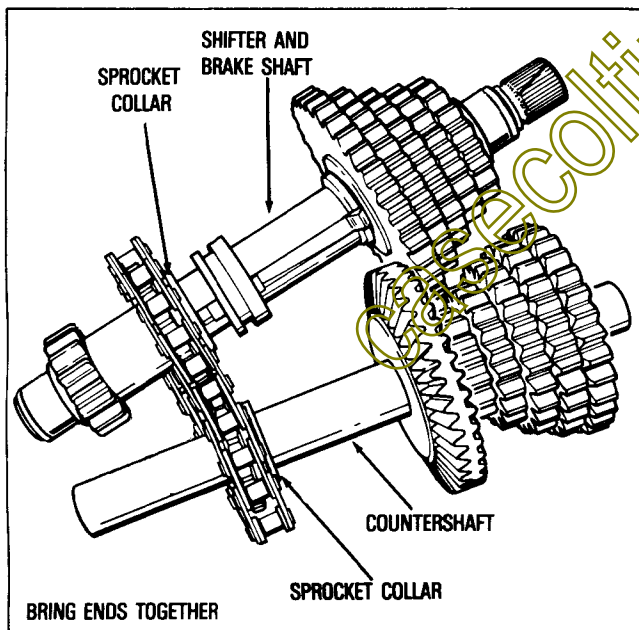

FIGURE 14
- With the shifter and brakeshaft and countershaft ends angled together (as shown in Figure 14), install the chain on the sprockets.